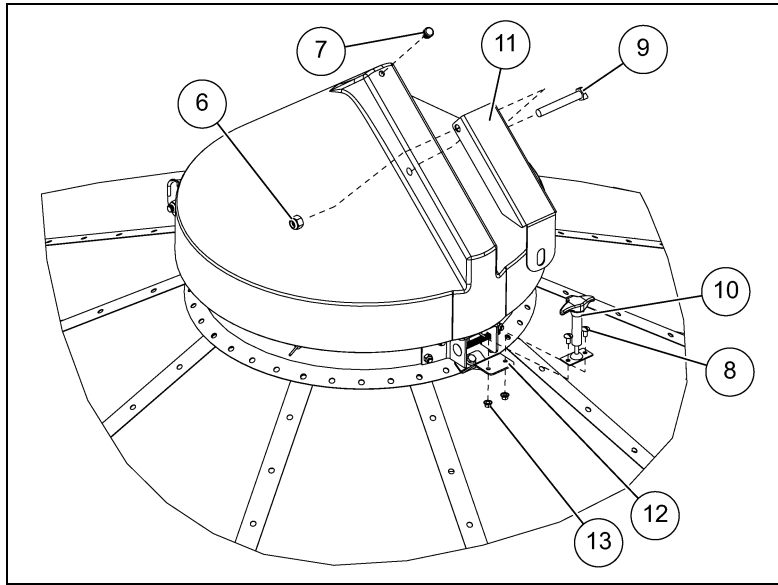

Figure 5
4. Install cap latch (10) components as shown in Figure 5. It may be necessary to remove the ground control arm (11) if lid ground control has been previously assembled on the tank.